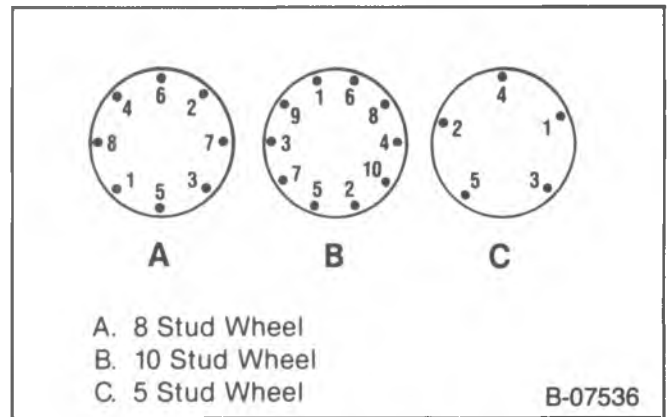

Figure 7—Wheel Tightening Sequence
Install or Connect (Figure 7)
- Tighten evenly and alternately to avoid excessive runout (figure 7).